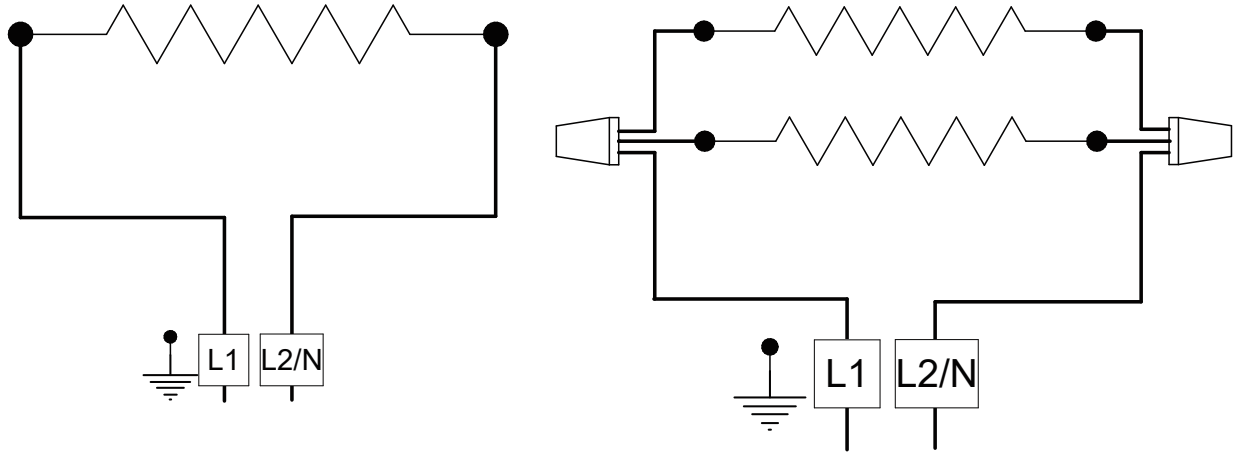

Figure 8: Left, wiring diagram for models 2424, 1448 and 1460. Right, wiring diagram for model 2448.
5. Carry out the electrical wiring as shown in (Fig. 8).